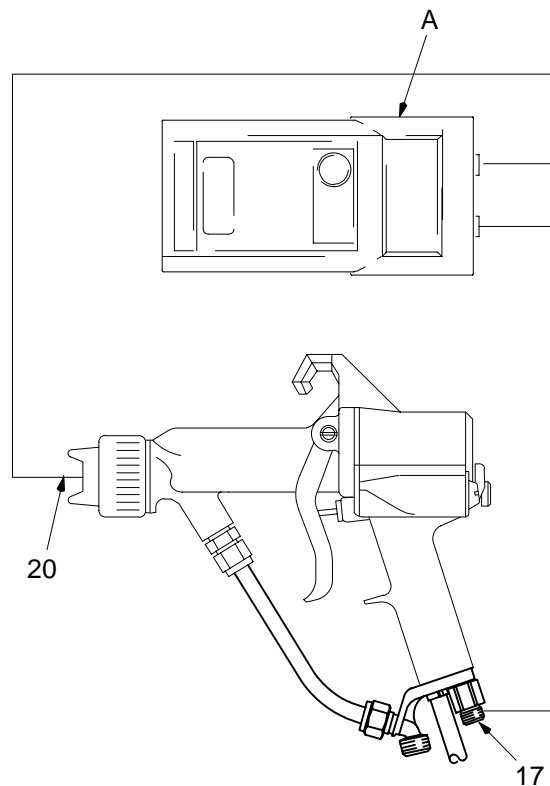

Fig. 7
Megohmmeter P/N 241079 (A-see Fig. 7) is not approved for use in a hazardous area. To reduce the risk of sparking, do not use the megohmmeter to do electrical tests unless:
Measure the resistance between the end of the electrode (20) and the gun air fitting (17). See Fig. 7. The resistance should be between 180 to 220 megohms. If the resistance is outside the specified range, go to the next test. If the resistance is correct, resume spraying or refer to the **Electrical Troubleshooting** chart on page 18 for other possible causes of poor performance.